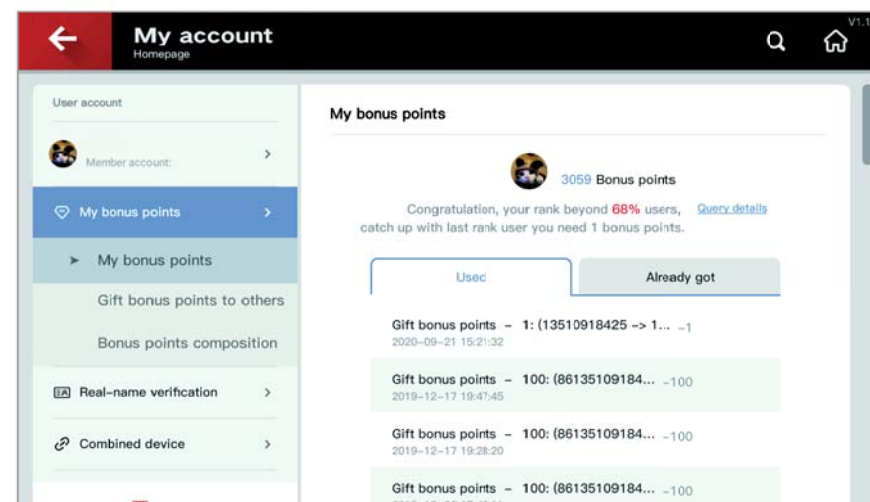

Fig.4.1.7
**My account:** Users can check the bonus points details, combine and unbind device and complete the real-name verification. See Fig. 4.1.7